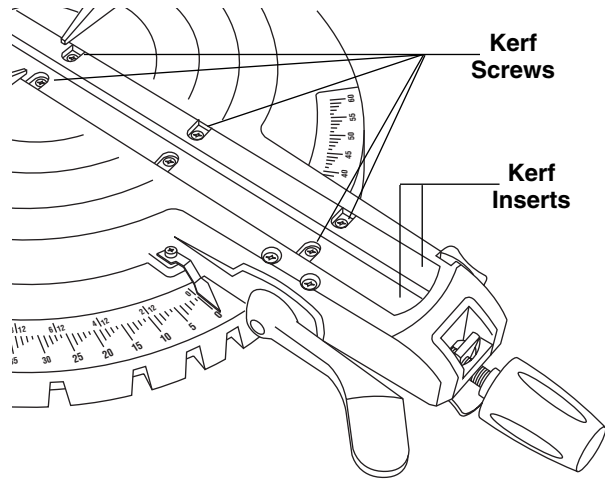

Figure 12. Kerf Insert
2. Loosen the six (6) kerf screws using the multi purpose tool (Figure 12).